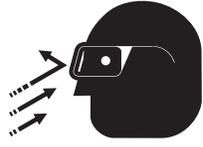

**Figure 25. Direction Control Switch (REVERSE)**
2. Place the **Direction Control Switch** to the **REVERSE** position (Figure 25). This will mix the water and cement into slurry.